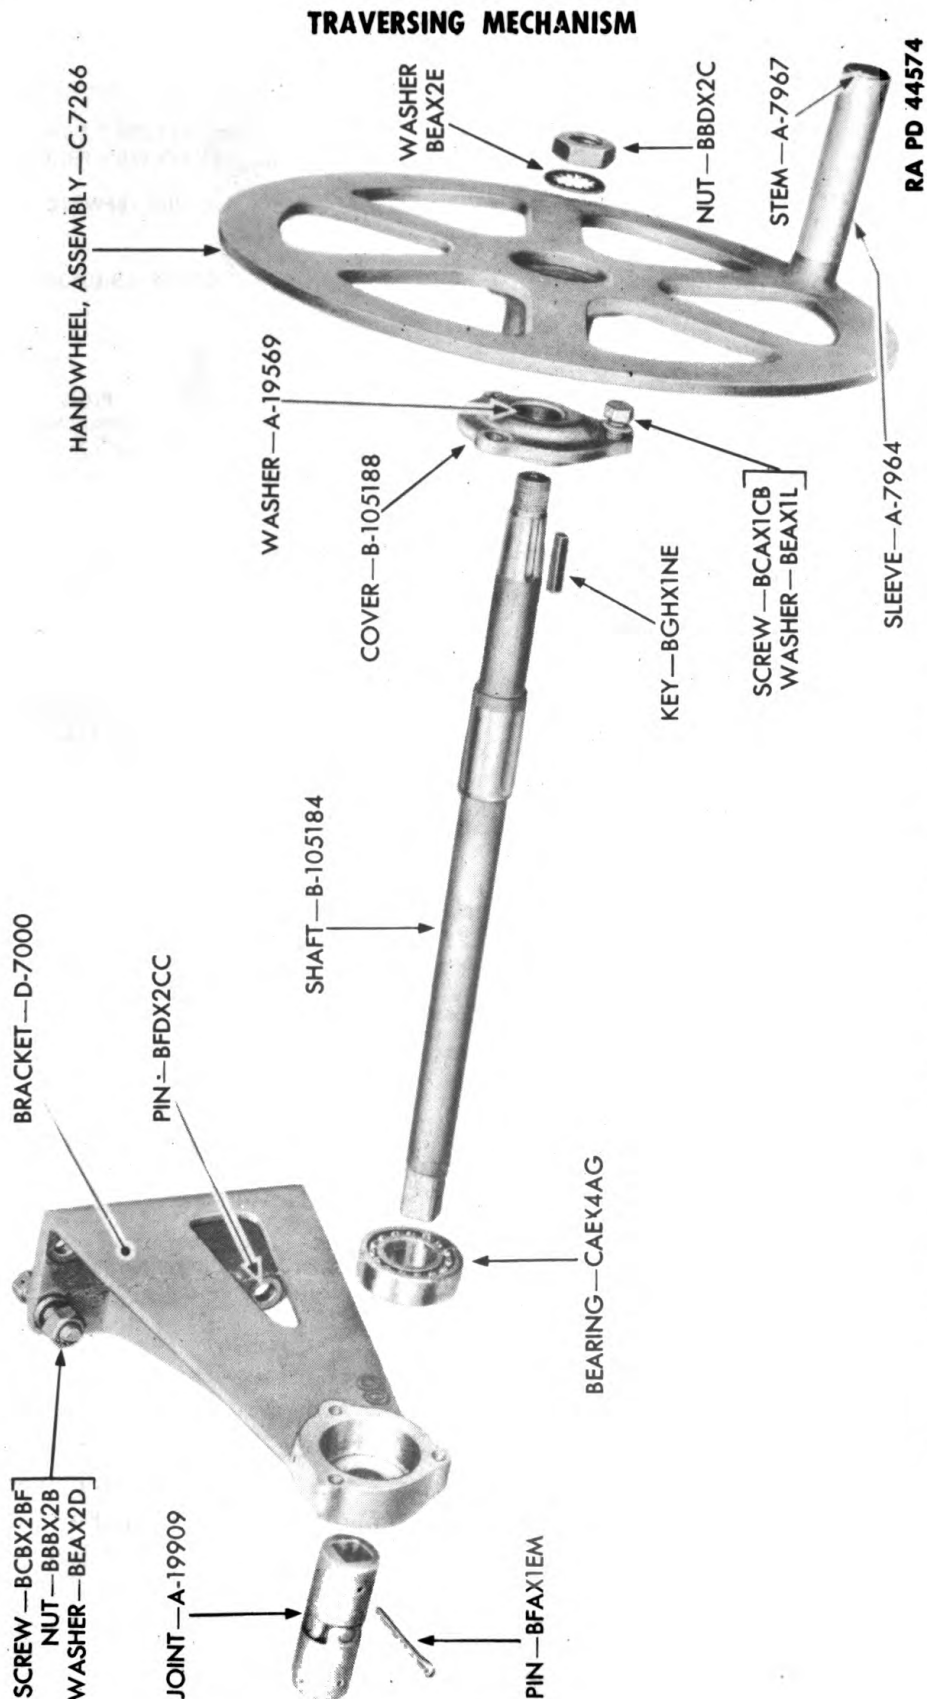

Figure 149—Traversing Handwheel, Bracket, and Shaft—Exploded View
a. Disassemble Traversing Handwheel, Bracket, and Shaft (fig. 149).
(1) Remove nut BBDX2C and washer BEAX2E from shaft B105184. Tap handwheel C7266 from shaft and remove key BGHX1NE from shaft.
(2) Remove three screws BCAX1CB and washers BEAX1L from cover B105188 and bracket D7000. Slide cover from shaft.
(14) Remove air drill, steel bar, and flexible joint. Secure the screws of all covers with safety wire.
b. Assemble Traversing Handwheel, Bracket, and Shaft (fig. 149).
(1) Pack the traversing handwheel shaft self-aligning ball bearing with GREASE, general purpose (seasonal grade). Work grease well into balls and races. Coat the bearing seat on traversing handwheel